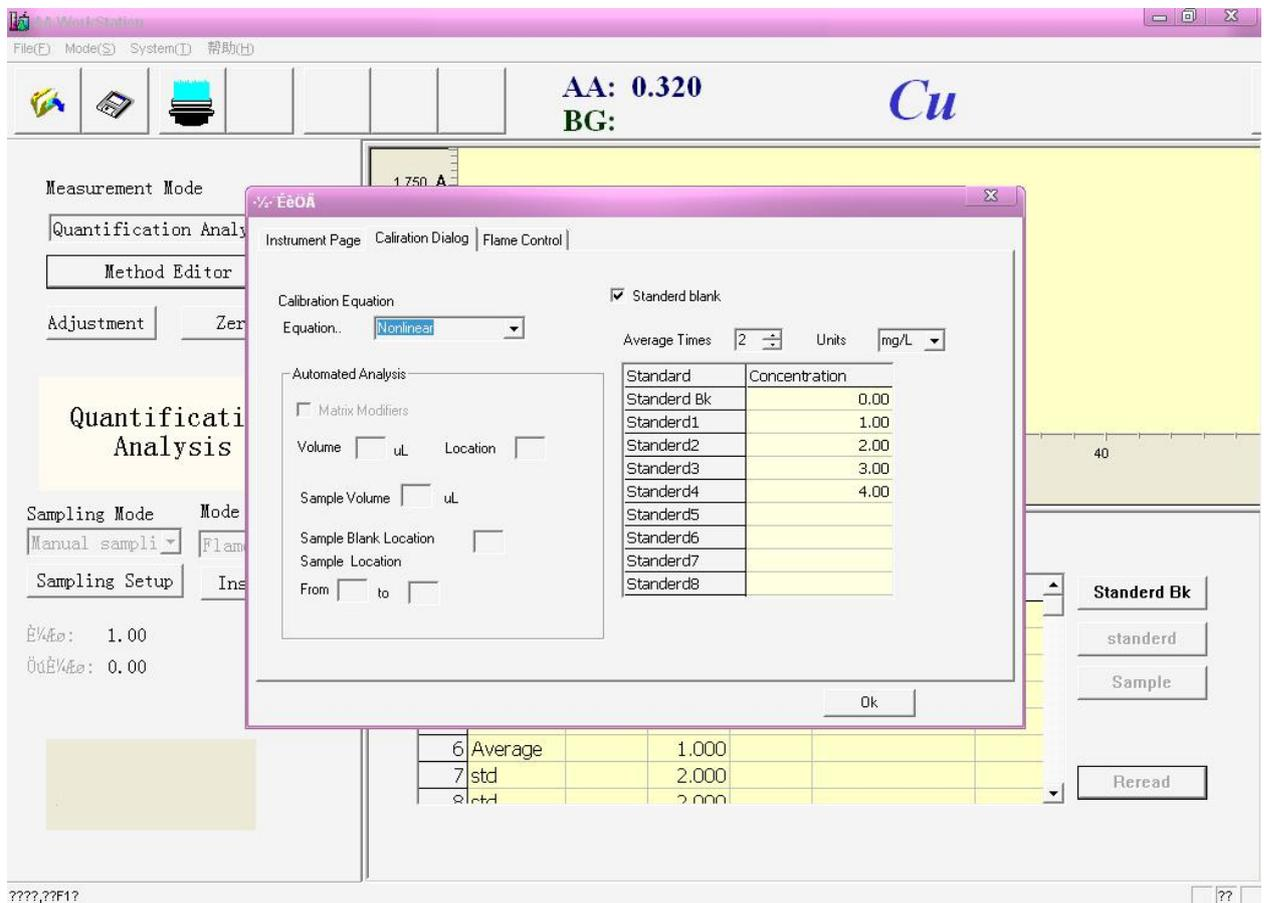

Figure 5-18
6. Select the “Nonlinear” in the “Calibration Equation”, figure 5-18